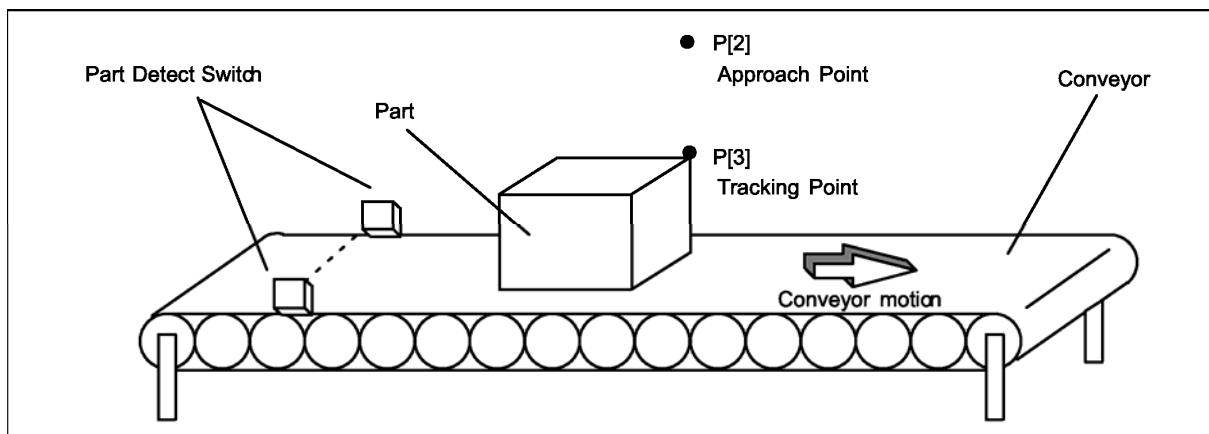

Fig. 3.4.2 Approach and tracking points
- P [2] is a safe approach point, typically above the part (see Fig. 3.4.2).
- P [3] is a known location on the part (see Fig. 3.4.2).